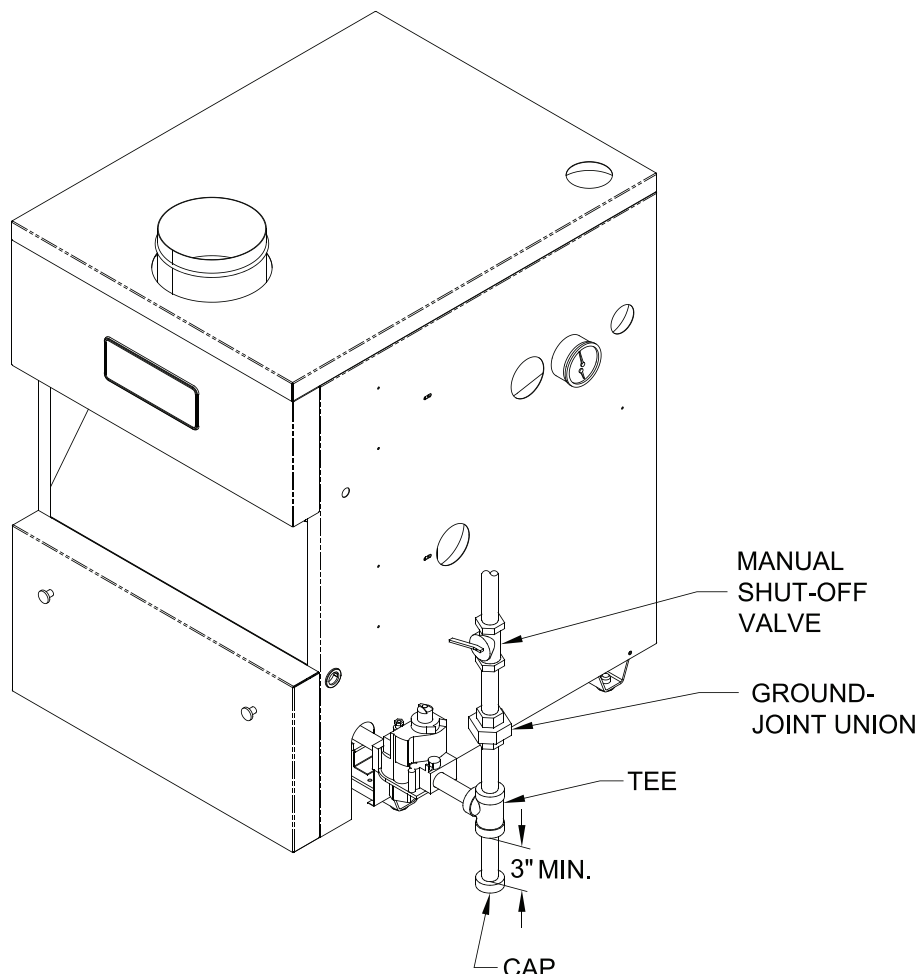

Figure 6: Pilot and Gas Piping
3. Install sediment trap, ground-joint union and manual shut-off valve upstream of boiler gas control valve. See Figure 6.